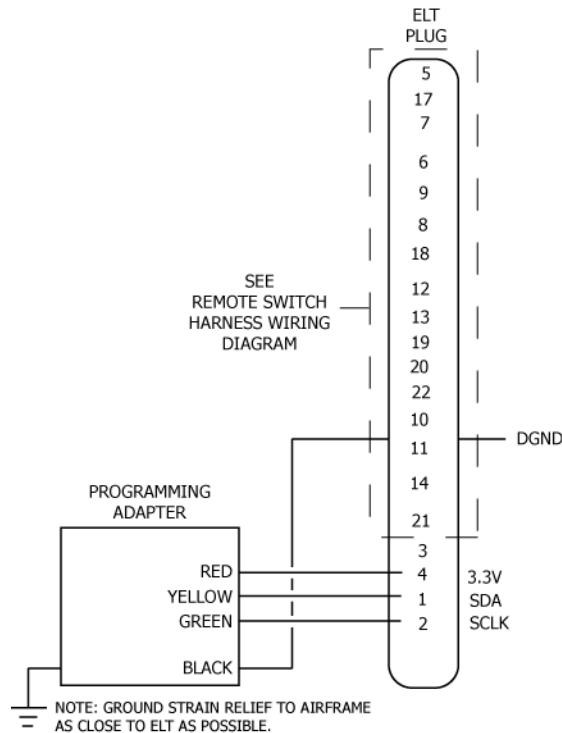

Figure 23 Programming Adapter Interface Wiring Diagram
- 2) If the PA is undergoing installation on an aircraft with an existing ELT and remote switch harness, perform the following procedure, otherwise proceed to Step (3):
- 4) Terminate the contact sockets of the four PA wires in the remote switch harness ELT plug using insertion tool MS27495A22MS, or equivalent. See Figure 23.